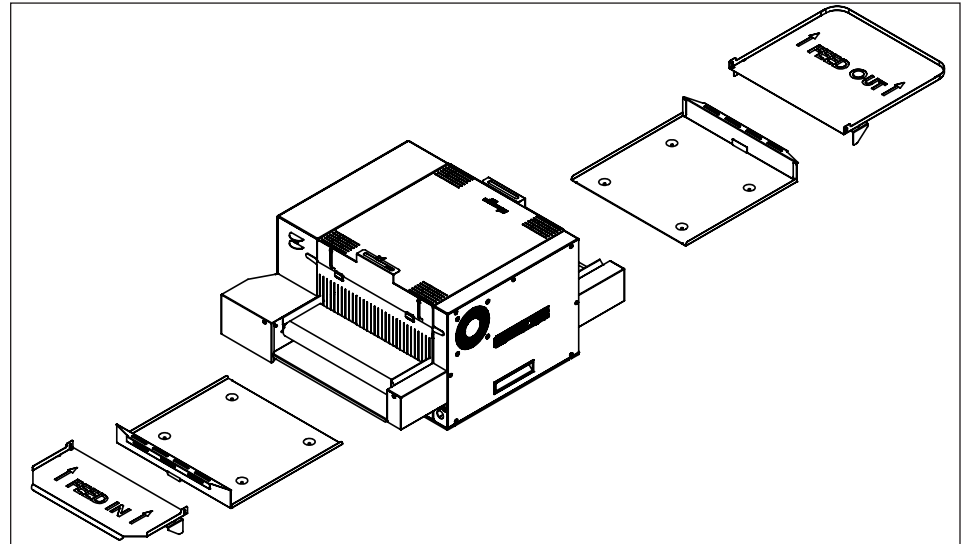

Figure 5. HRT-4H Cleaning Components
2. Put on neoprene gloves. Remove the Bun Feeder, Crumb Trays, and Feeder Trays (Figure 5).
1. From the rear of the unit (Figure 5), inspect the Conveyor Belt Chain for any damage. Replace if needed.